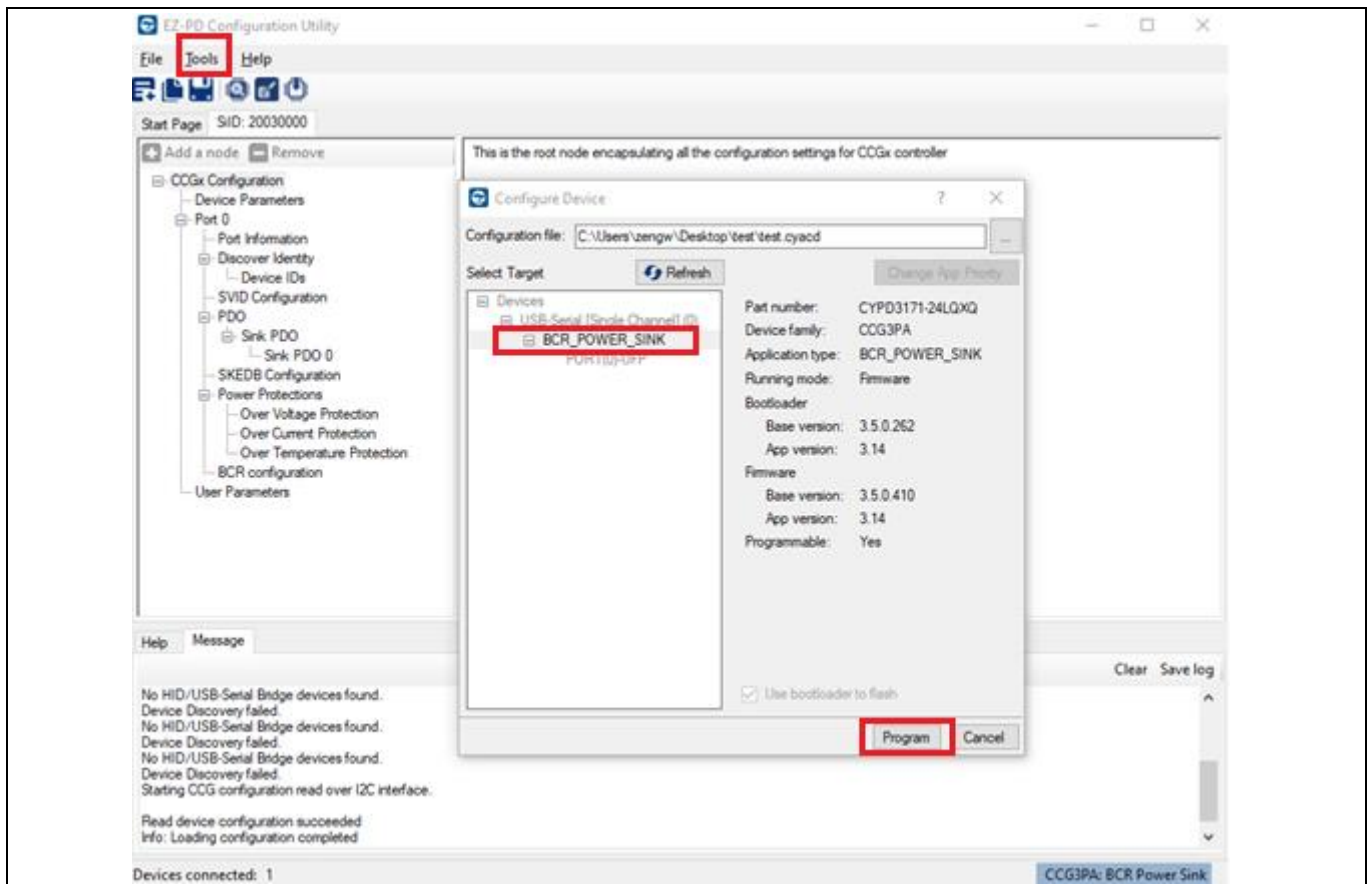

Figure 18 Configure the BCR-PLUS device using the EZ-PD™ configuration utility
11. In the main menu, select **Tools > Configure Devices**. A new window to configure the device will open as shown in **Figure 18**.